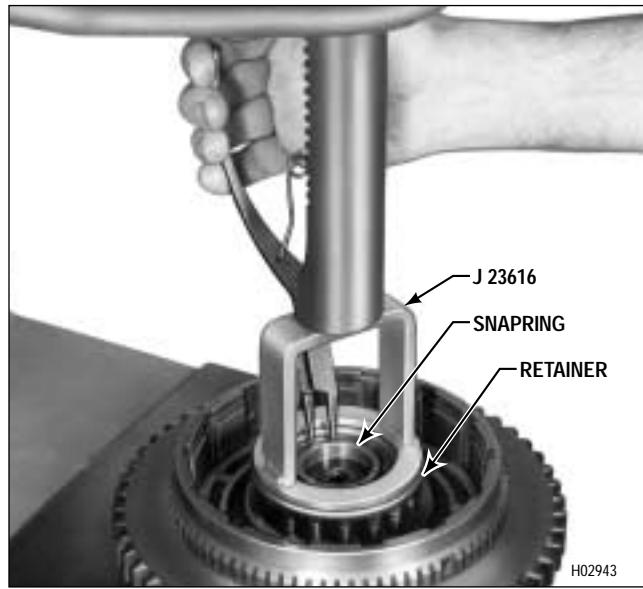

Figure 6-37. Removing (or Installing) Forward Clutch Spring Retainer Snapring
(15) Place the forward clutch assembly in a press with the spring retainer upward (Figure 6-37).
(16) Place compressor tool J 23616 on the spring retainer (Figure 6-37). Compress the retainer until the snapring is free. Using snapring pliers, remove the snapring. Release the press and remove the assembly.
(4) Using compressor tool J 23616, compress the spring retainer until it clears the snapring groove in the housing hub (Figure 6-37). Install snapring 22 (Foldout 8) into the groove in the hub in the clutch housing assembly. Release the press and remove the clutch housing assembly.